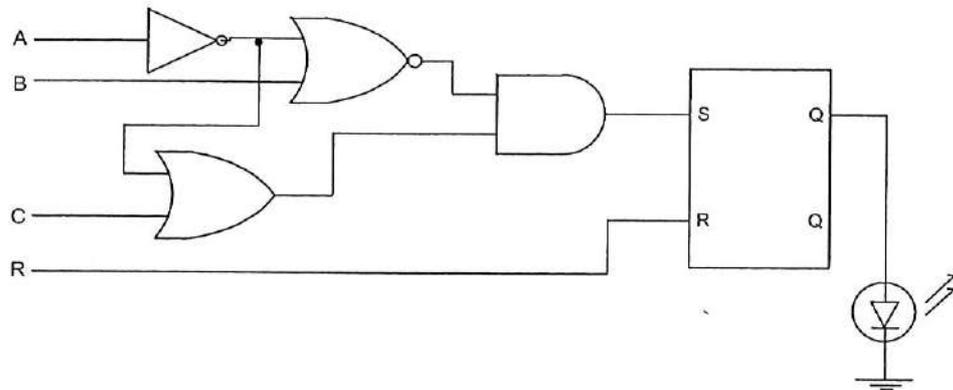

Figure Q4(a) / Rajah Q4(a)
- Q4 (a) Refer Figure Q4(a), list the appropriate input combination of A, B, C and R for LED always ON.